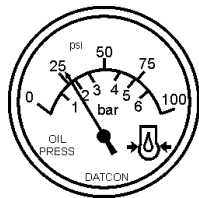

Figure 31. Oil Pressure Gauge
9. The engine oil pressure gauge (Figure 31) will indicate the oil pressure (kg/ cm²) of the engine. Under normal operating conditions the oil pressure is approximately 25 psi.